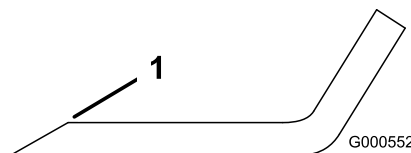

Figure 77
1. Use a file to sharpen the cutting edge at both ends of the blade (Figure 77).
Note: If the blade is not balanced, file some metal off the end of the sail area only (Figure 77).